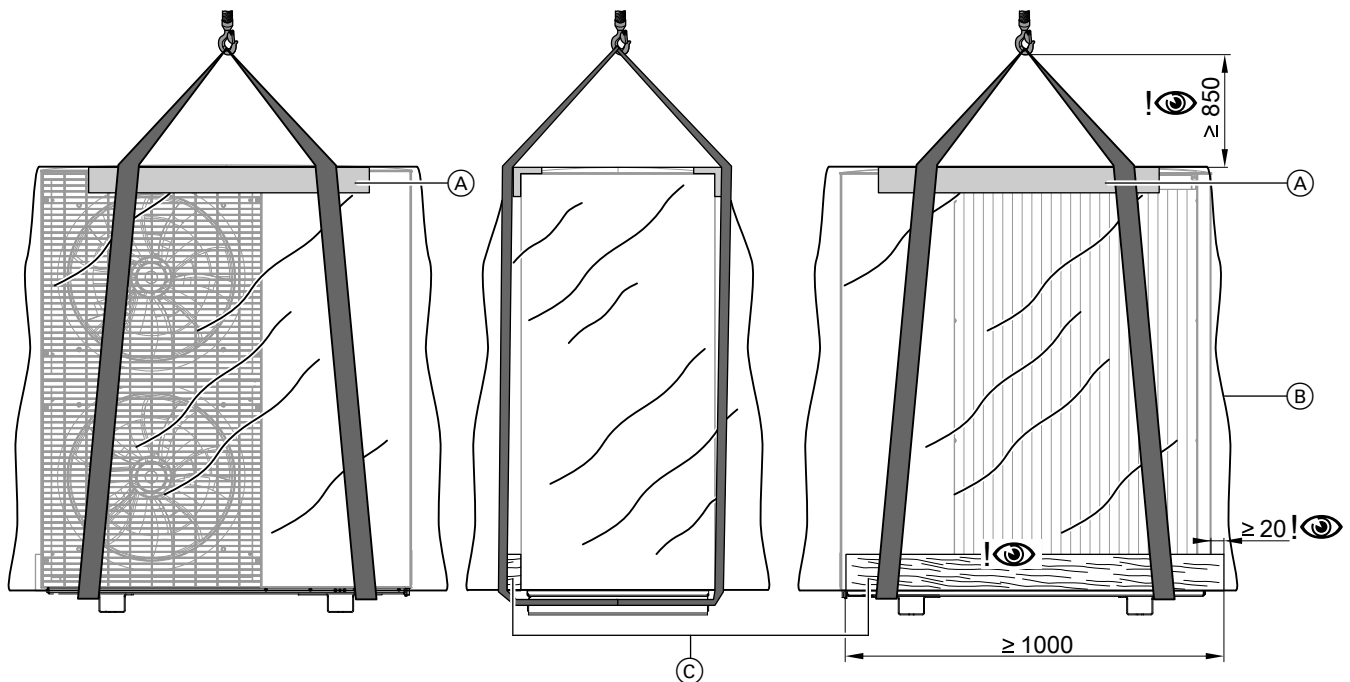

Fig. 6 Transport by crane using the example of the outdoor unit with 2 fans
3. Position the edge protection profiles on site at the front and rear upper edges of the outdoor unit. Place slings properly around the outdoor unit: See Fig. 6.